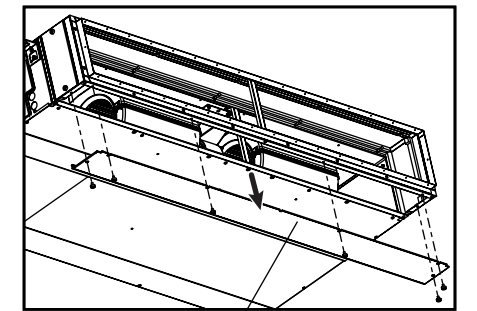

Fig.4-2-1
(1) Remove the under panel from the filter box. (Fig. 4-2-1)